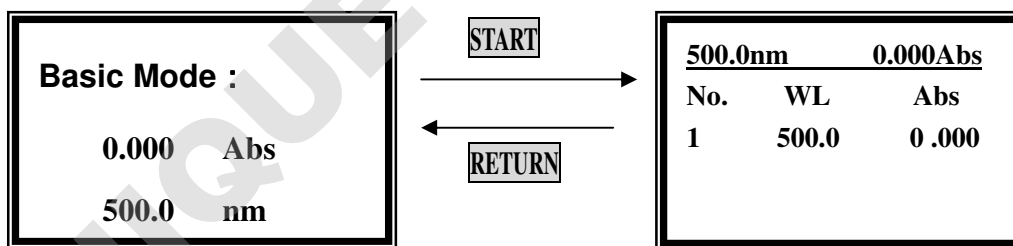

Fig. 8
Push the sample into light path, press **[START]** to go into basic mode test interface.(Fig. 8)
- ① 5 groups of test data can display per screen, total 200 groups of data can be saved.
- ② In the right one of Fig. 8, you can change your test wavelength, blank, change test mode and print by press **[GOTO λ]**, **[ZERO]**, **[SET]** and **[PRINT]** respectively.